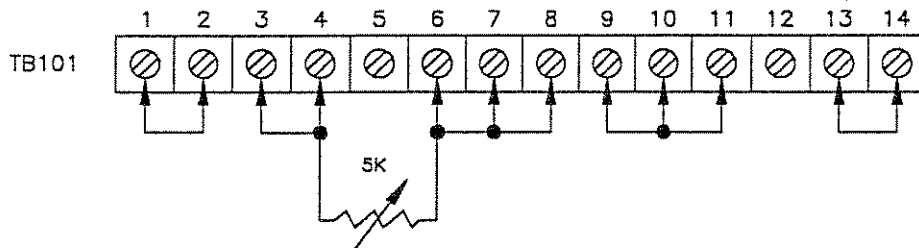

Figure 4: Remote Programming by External Resistance, Voltage Mode.
3.3.4 Remote Programming By External Resistance (Figure 4 & 5)